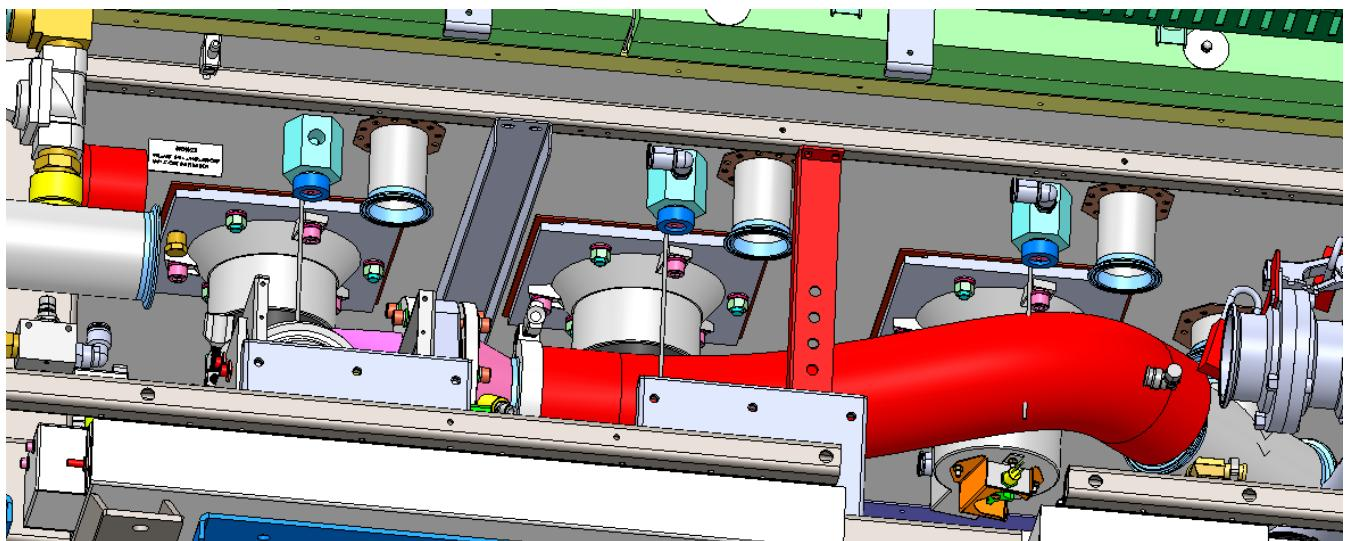

Fig 10/11
9. remove below tube from oven . Retain clamp and 2" butterfly assy. Set aside for reinstallation (see Fig 10/11)